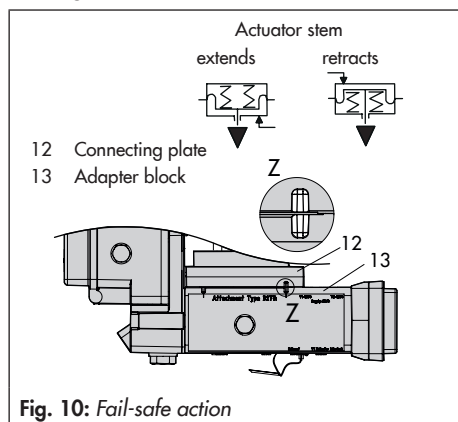

Fig. 10: Fail-safe action
7. Insert the screws (13.1) through the middle holes of the adapter block (13).
8. Place the connecting plate (12) together with the seal (12.1) onto the screws (13.1) corresponding to the fail-safe action "actuator stem extends" or "actuator stem retracts". The fail-safe action that applies is determined by aligning the groove of the adapter block (13) with the groove of the connecting plate (12) (Fig. 10).